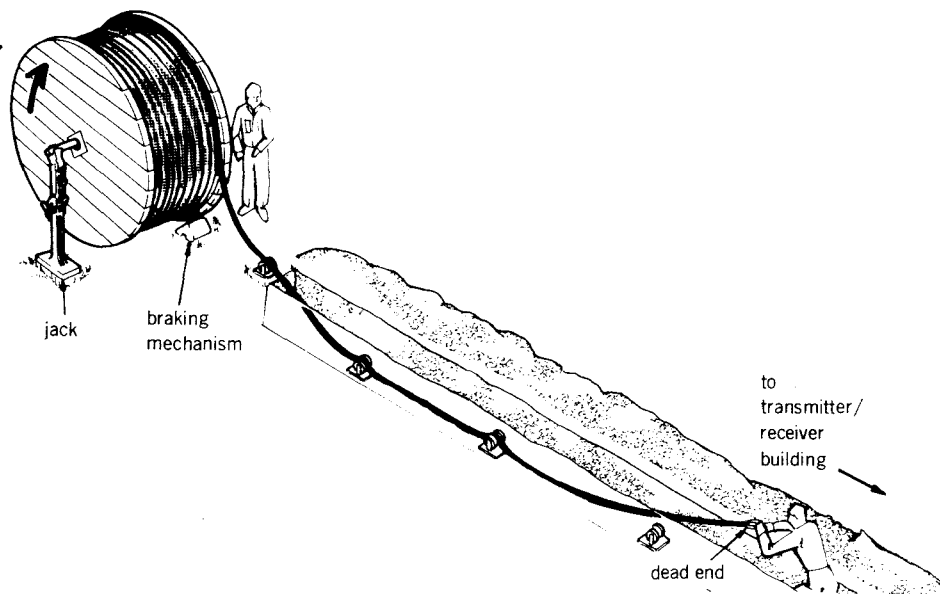

Fig 19.5 Laying the cable
Positioning the cable drum. The drum carrying the coaxial cable (Fig 19.5) has to be positioned at the end of the prepared trench. During this operation, certain precautions must be observed if serious damage to the cable is to be avoided; these precautions are as follows:
- Some form of brake mechanism must be provided for the drum—a small wedge brake of the type illustrated in Fig 19.5 will be adequate. It is important that there is someone in attendance at this braking device at all times during the cable laying operation to guard against too rapid a rotation of the cable drum and the subsequent damage to the cable.
When the cable drum is correctly positioned at the end of the trench, a spindle is inserted through the centre of the drum and the drum raised on jacks (Fig 19.5).
Laying the cable. To lay the cable in the trench a pulling-in rope is first secured to the end of the coaxial cable by means of a cable grip (dead-end—*see* Fig 10.9). The cable is then drawn into the trench over rollers placed at intervals along the trench (Fig 19.5). At the antenna end of the trench allow sufficient cable to permit connection either to an open-wire feeder or direct to the antenna and, at the other end of the trench, allow sufficient cable to feed into the transmitter/receiver building. Cut this length of cable from the drum and seal the ends of the cable both sides of the cut to prevent the ingress of moisture and dirt.